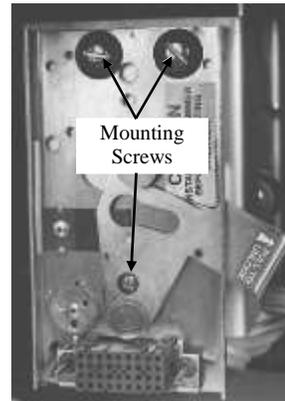

Figure 12. Programmer mounting plate attached to the support bracket
1. Programmer mounting plate fully assembled to support bracket shown in figure 12.
1. Pull out the locking lever on the trip unit mounting plate until it snaps into the open position, as shown in Figure 12.